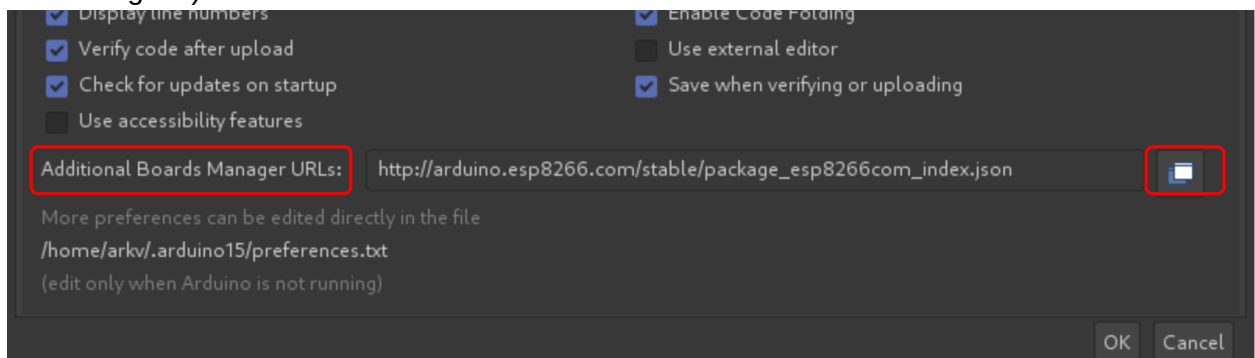
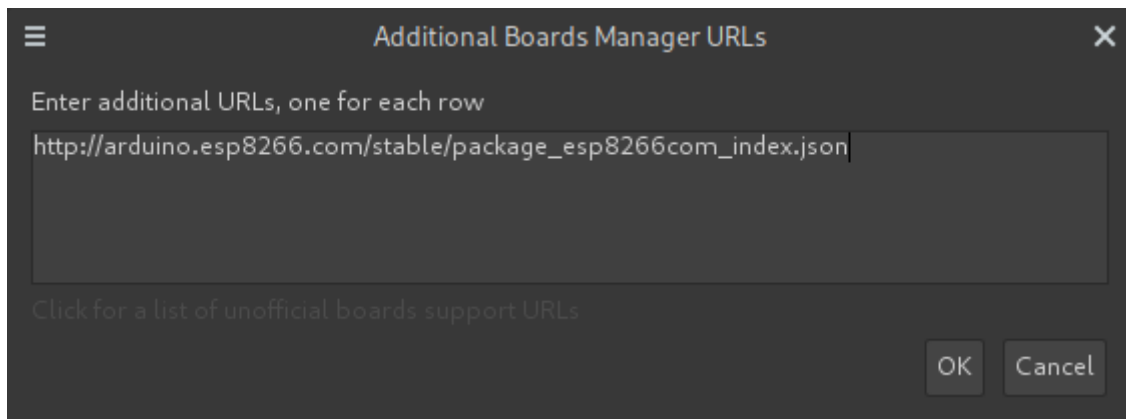

Figure 8x. Boards manager option
Figure 9x. Adding support for ESP8266 boards
- **Locate field:** “Additional Boards Manager URLs:” and press the icon on the right side (see Fig. 8x). After pressing the icon, a new window should appear (see Fig. 9x).
- In the text field of the window enter the following line and press “OK” button (see Fig. 9x):